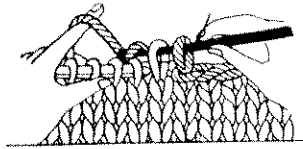

Fig. 87
2. Bind off the knitting as shown in Fig. 87.